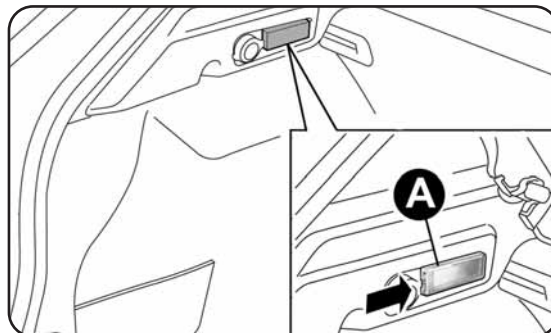

fig. 145
- open the boot and extract the light A-fig. 145 by operating in the point shown by the arrow;
- refit the light A-fig. 145 by inserting it in its correct position on one side and then on the other and then press the other side until you hear it click.